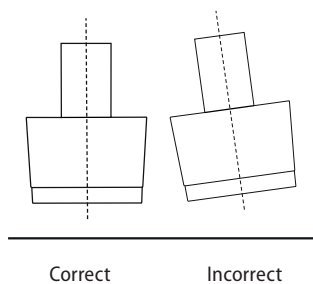

Fig. 5
5. Make sure that the bracket is in the horizontal position in order to prevent grease (fat) from being accumulated on one side after the hood has been hung (Fig. 5).